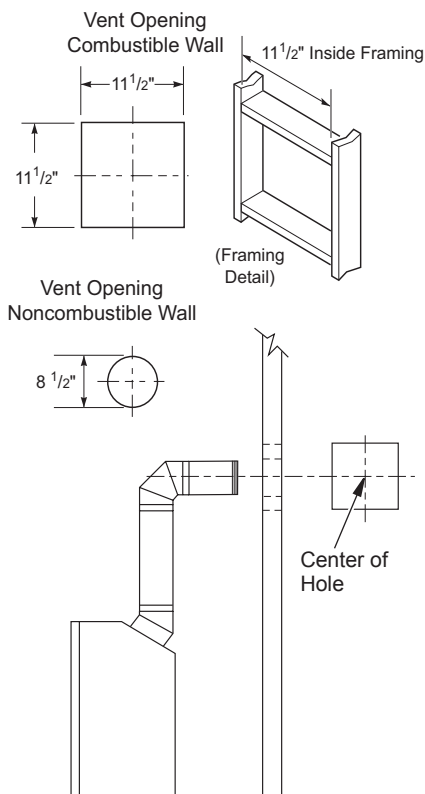
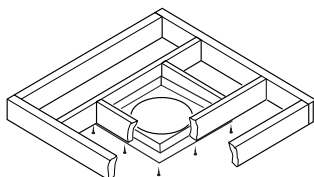

Figure 9 - Vent Opening Requirements
Figure 20 - Installing Firestop
5. Carefully determine location where vent pipe assembly will penetrate outside wall. Center of hole should line up with center line of horizontal vent pipe. Mark wall for a 11 1/2" x 11 1/2" square hole. Cut and frame square hole in exterior wall where vent will be terminated. If wall being penetrated is constructed of non-combustible material, such as masonry block or concrete, a 8 1/2" hole with zero clearance is acceptable (see Figure 9).
3. Cut a hole in the roof using locating hole as a center point. (Cover any exposed open vent pipes before cutting hole in roof.) The 11 1/2" x 11 1/2" hole must be measured on the horizontal; actual length may be larger depending on pitch of roof. There must be a 1" clearance from vent pipe to combustible materials. Frame opening as shown in Figure 9, page 10.
should be framed to 11 1/2" x 11 1/2" inside dimensions, as shown in Figure 9 on page 10 using framing lumber the same size as ceiling joists. If area above ceiling is an insulated ceiling or an attic, nail firestop from top side. This prevents loose insulation from falling into required clearance space. If area above ceiling is a living space, install firestop below framed hole. Firestop should be installed with no less than three nails per side (see Figure 20).